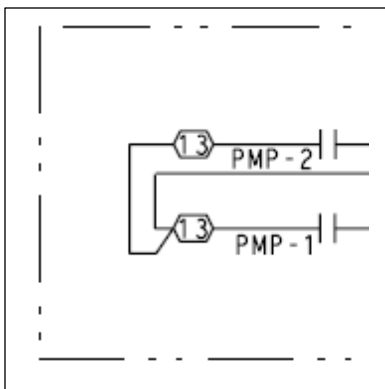

Fig. 5 – Pump Interlock Wiring on Main Base Board
7. Locate the main base board in the main control panel. Refer to Fig. 3, 4. Near CH18 (J5C) of the board, there are violet and pink wires tied up outside the wire duct terminated with wire nuts. These wires are for pump auxiliary contact wiring. Remove the wire nuts and connect the two wires to pump auxiliary contacts per Fig. 5 with field supplied wiring. If only one pump is available in the system (no backup pump), the wiring for PMP-2 is not required.